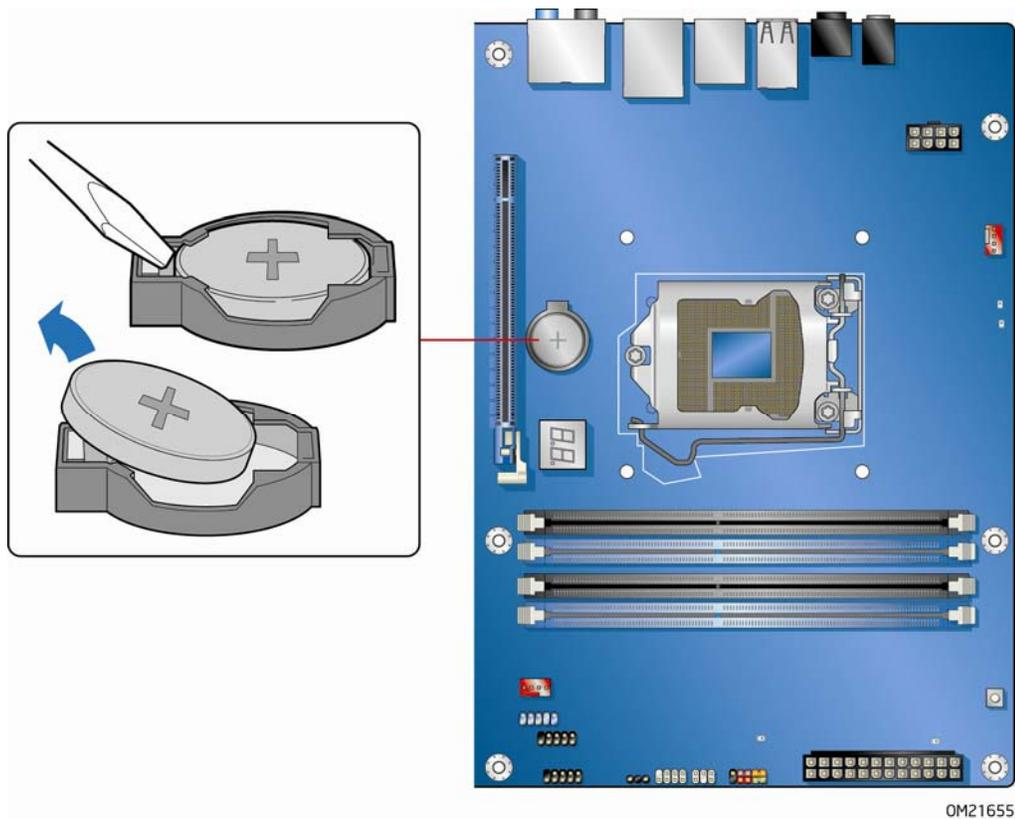

Figure 32. Removing the Battery
When the voltage drops below a certain level, the BIOS Setup program settings stored in CMOS RAM (for example, the date and time) might not be accurate. Replace the battery with an equivalent one. Figure 32 on page 63 shows the location of the battery.
4. Locate the battery on the board (see Figure 32).